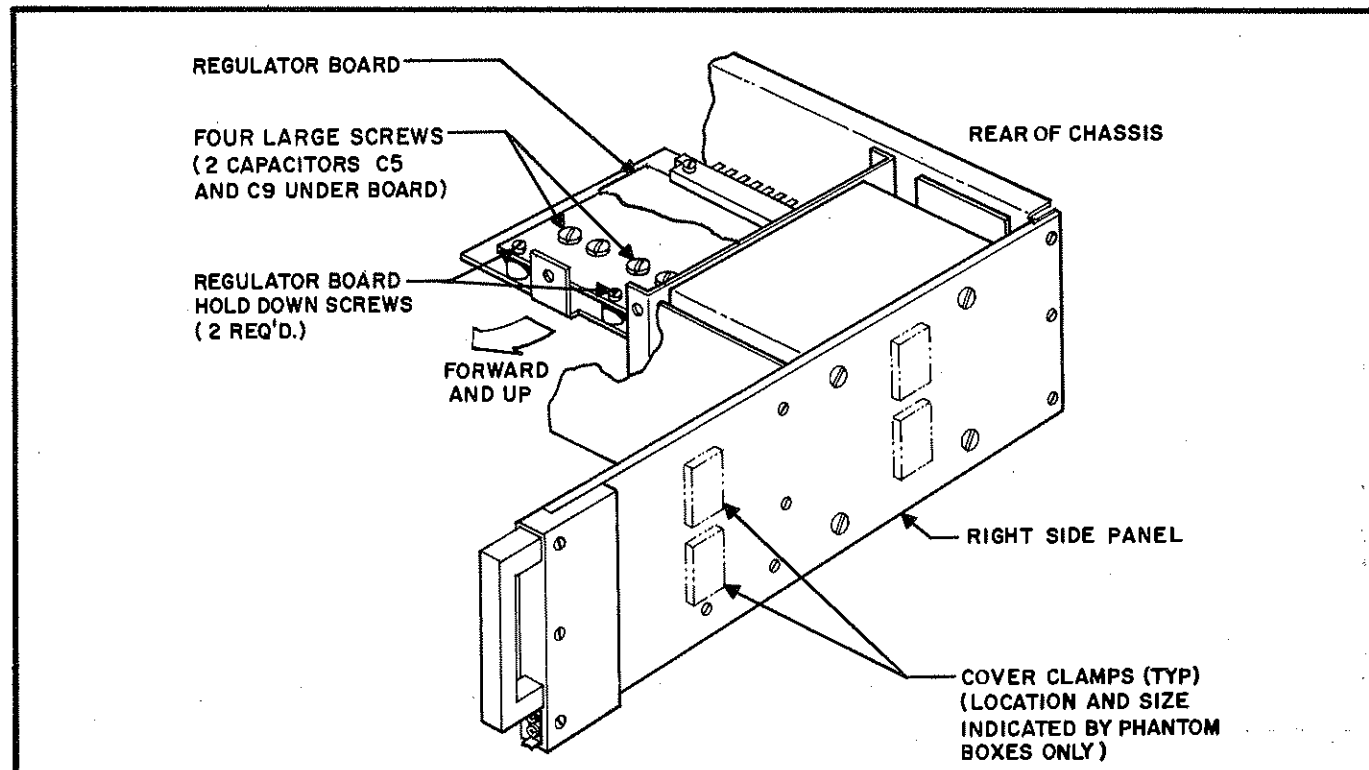
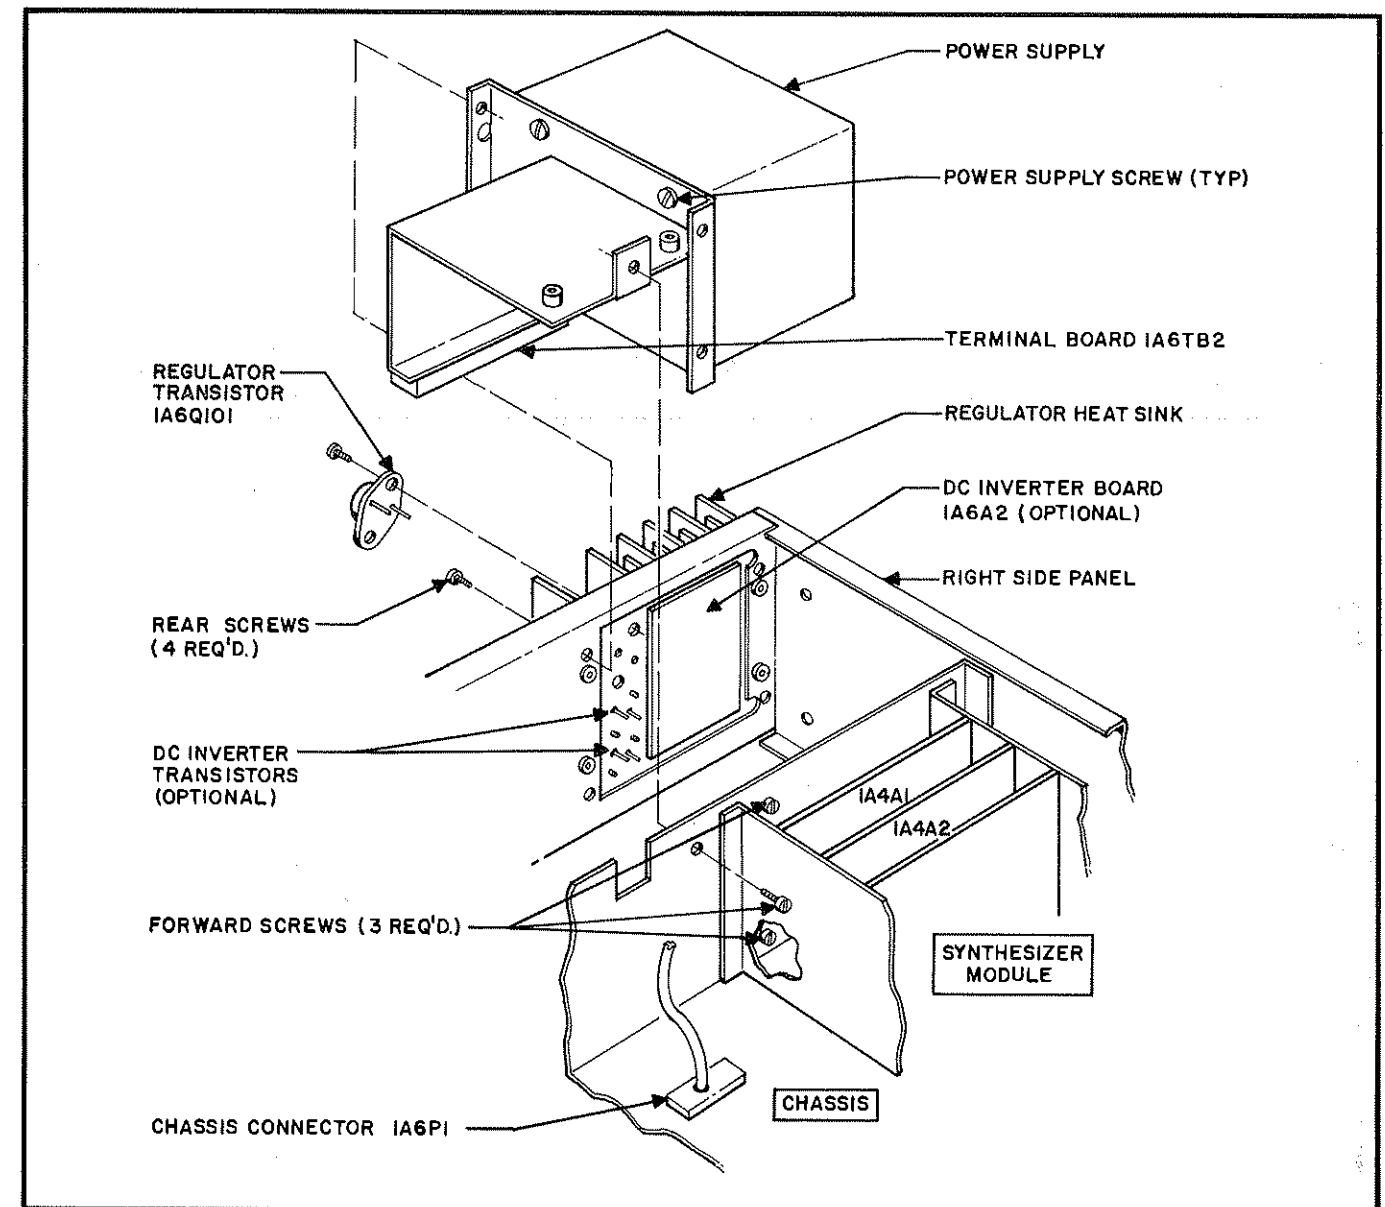

Figure 5.2 Power Supply Regulator Board (1A6A1)
Figure 5.3 Power Supply Removal (1A6)
5.8.3.2 To remove Regulator board (1A6A1), take out four large screws holding two capacitors (1A6A1-C5 and C9) as shown in Figure 5.2. Next, unfasten two hold down screws and pull the board forward and slightly upward to remove.
5.8.3.3 To take out the entire power supply from the chassis, remove only the screws, shown in Figure 5.2, from the RIGHT SIDE PANEL. DO NOT remove the cover clamps and their associated hardware. Unplug the connector, 1A6P1, from the chassis as illustrated in Figure 5.3. Remove the four screws holding the regulator heat sink and then unscrew the transistor 1A6Q101 from the heat sink. If a D.C. Inverter is installed, disconnect its leads from terminal board 1A6TB2. Next remove the screws holding the Power Supply module